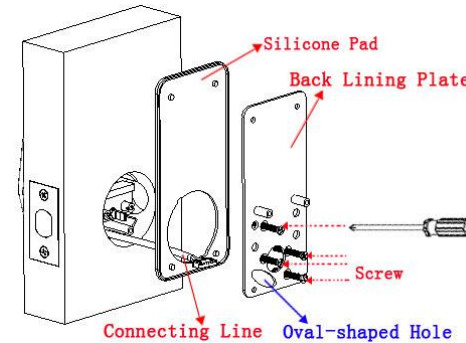
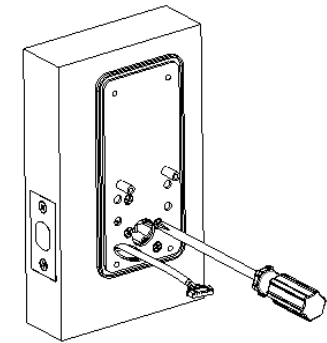

Figure 14
Figure 15
4. Install the back lining plate to the mapping hole. Pull the connecting wire out of the oval-shaped hole of the back lining plate (As shown in **Figure 14**), attach the back lining plate and front panel assembly using a screwdriver, as shown in **Figure 15**.